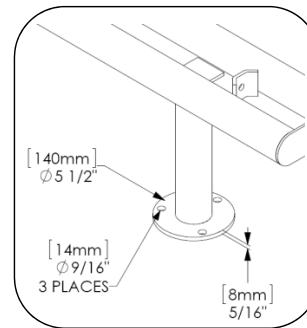

Fig. 1 – Surface Mount
2. Mark hole locations. See Fig. 1 for surface mount plate details.